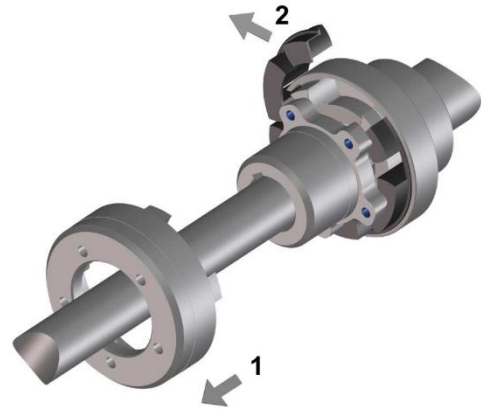

Fig. 16
- Unscrew the claw ring and push it back (Fig. 16, Item 1).
- Remove the intermediate ring (Fig. 16, Item 2). Start at the cut-through connection bridge.